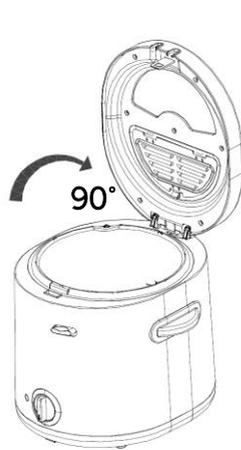

Fig. 4
2. Open the lid and the pull the lid upwards to remove (fig. 4 & 5) and lift out the frying basket.